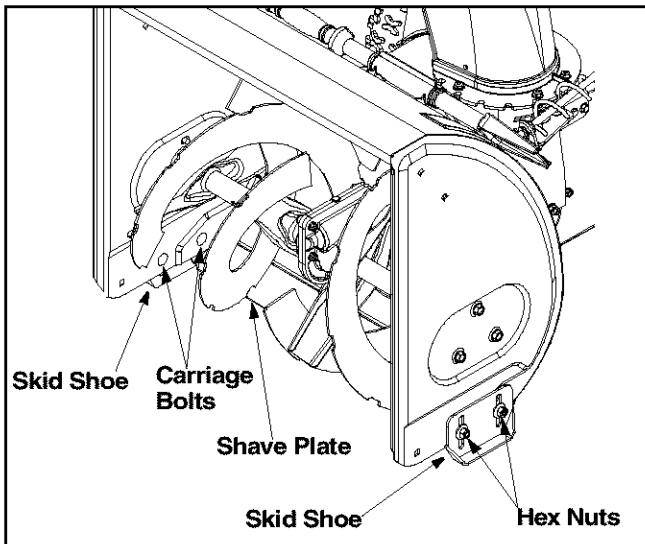

Figure 21
- To remove skid shoes, remove the four carriage bolts, cupped washers and hex nuts which attach them to the snow thrower. Reassemble new skid shoes with the four carriage bolts, cupped washers (cupped side goes against skid shoes) and hex nuts. See Figure 21.